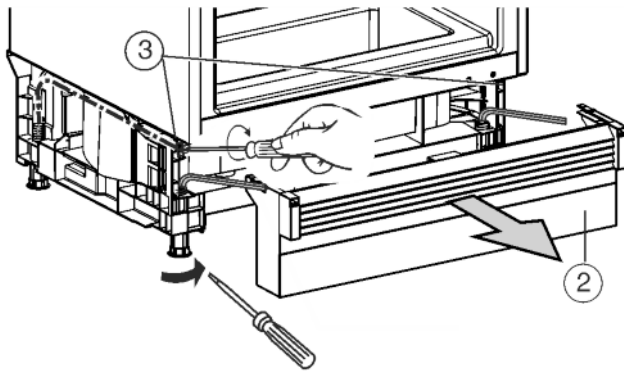

Fig. 12
- ▶ Remove the plinth panel Fig. 12 (2) by pulling it forwards. If necessary, remove the bottom door rack. This will make it easier to fit.
- ▶ Align the appliance upright using the adjustable feet: Unscrew the rear adjustable feet alternately with the screws Fig. 12 (3). Unscrew the front adjustable feet with a screwdriver. Use an 8 mm socket wrench when they are screwed in. The appliance should be slightly braced in the recess between the floor and the work surface.